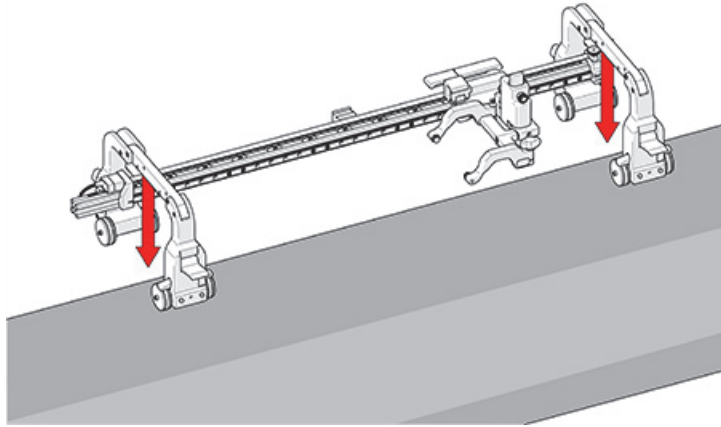

Figure 2-7 Placing magnetic scanner on scan surface
4. Place the MapSCANNER on the scanning surface (see Figure 2-7 on page 37).